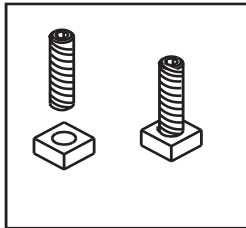

Figure 16.1
1. Thread Allen bolts through nuts until flush. **Figure 16.1.**